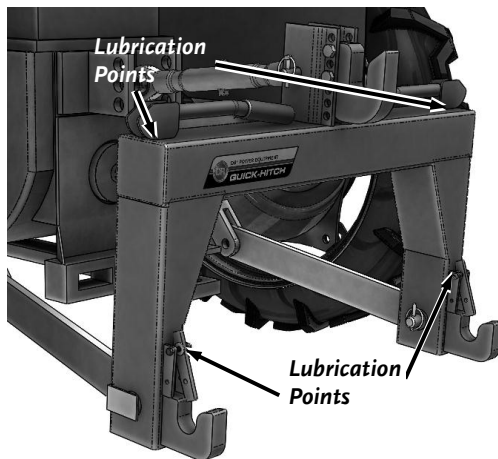

Figure 13
1. Clean the debris from around Lubrication Points with a Rag (**Figure 13**).